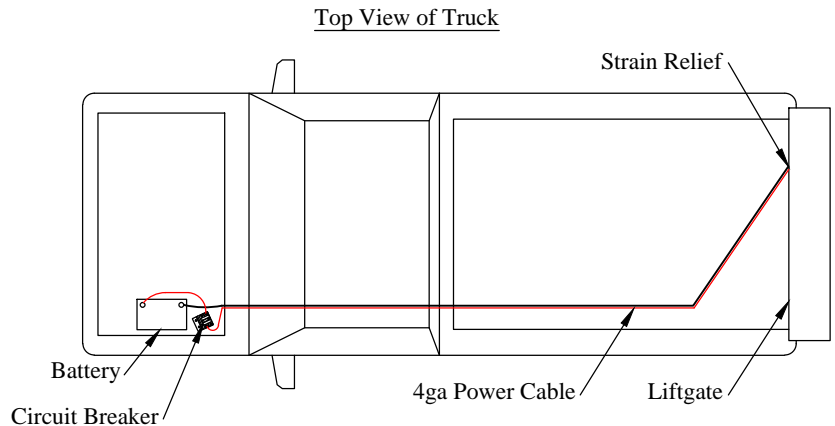

Figure 19: Electrical routing.
3. **Loosen** the strain relief on the back of the liftgate mainframe (Figure 19).
4. **Pull** the power cable (coiled up in the liftgate mainframe) carefully through the strain relief. Leave approximately two (2) inches of slack inside the liftgate mainframe (Figure 19).
6. **Route** the power cables along the frame (Figure 19) to the battery following the *Tommy Gate Recommended Electrical Wiring Guidelines*.